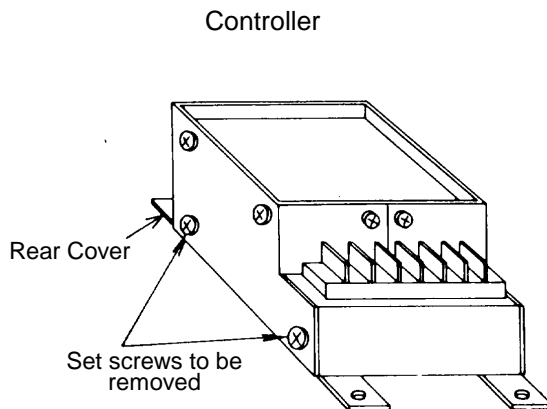

Figure 5.1
1. Remove both pair of set screws on the sides of the controller (Figure 5.1).